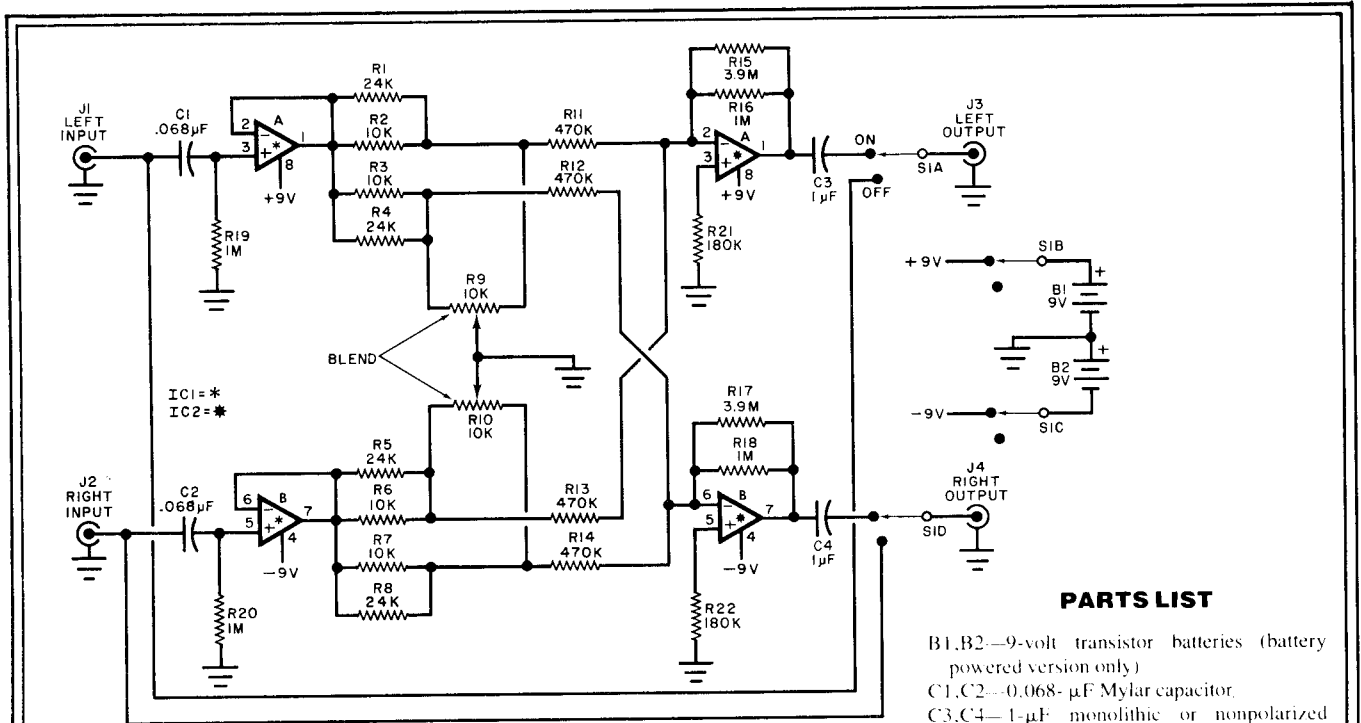
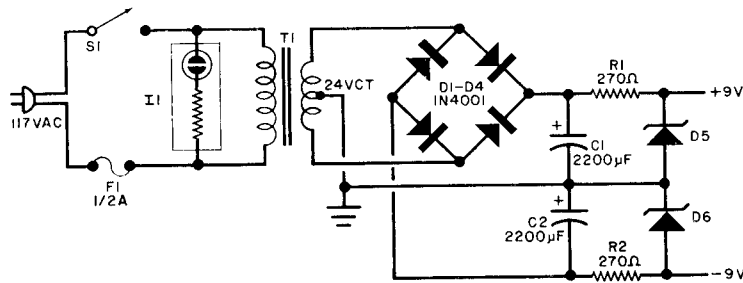

Fig. 1. Schematic diagram of the stereo blend.
Fig. 2. Ac power supply features zener diode regulation.
**About the Circuit.** The schematic diagram of the stereo blender is shown in Fig. 1. The heart of the circuit is contained in two variable voltage dividers, comprising *R1* through *R4* and *R9* for the left channel, and *R5* through *R8* and *R10* for the right channel. Input signals are applied to the voltage dividers via coupling capacitors *C1* and *C2* and voltage followers *IC1A* and *IC1B*.
Two 9-volt transistor batteries power the circuit of Fig. 1. Total current drain is fairly low, so fairly long battery life can be expected if the project is used intermittently. However, you might prefer to power the project from the ac line. A suitable regulated bipolar supply is shown schematically in Fig. 2.